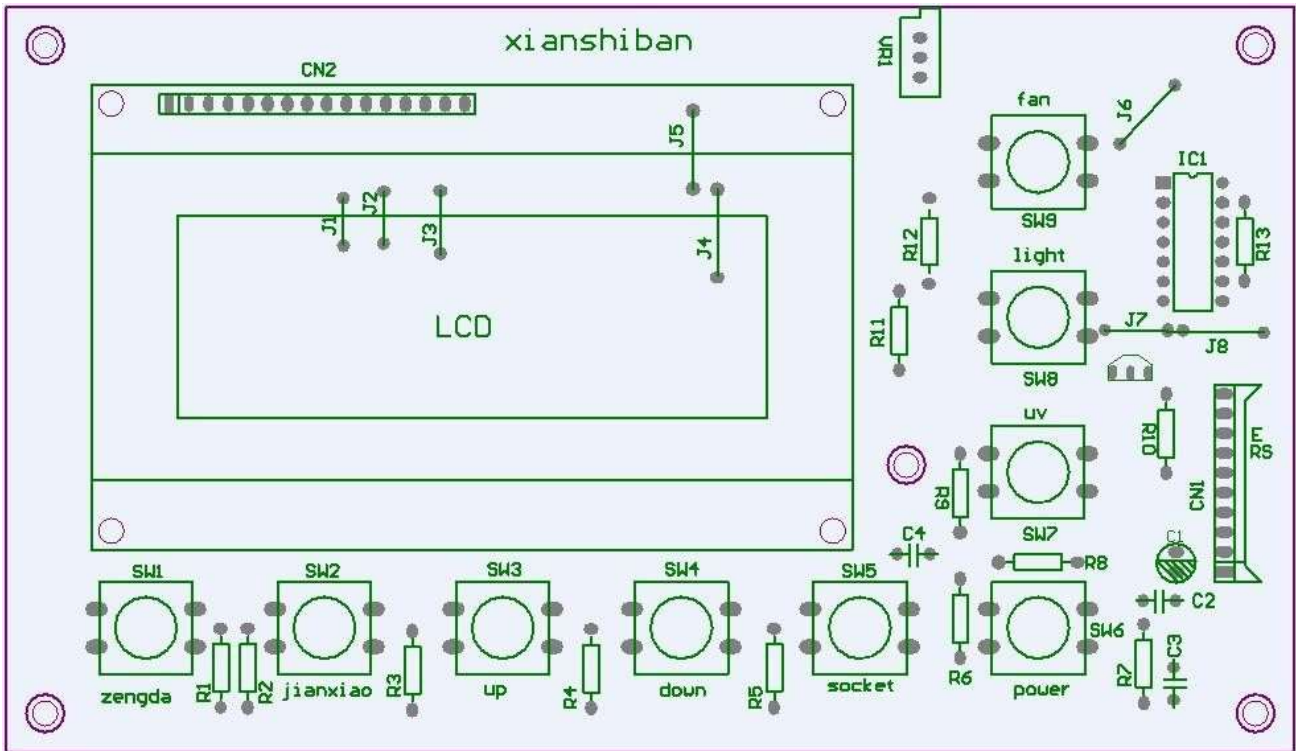

Figure 6 The back of the display screen and circuit diagram
2.2 LCD panel is damaged and replaced. After the power is off, take a picture of the connection positions between the display circuit board and the main control board(As Figure 3), then remove the connections cables. After that, remove the fixed nuts of the display circuit board with a 4-7 wrench(as Figure 6) and replace the old circuit board with the new one as the connection pictures. At last, power test.
8.1(Note : Factory setting :The fan does not start when the window falls to the bottom),The equipment is powered on and the power switch is turned on. Press the power supply key and fan key in turn to see if the fan sign is displayed on the display screen.If not displayed, open the operating panel to check if the UV light interlocking microswitch (figure 6) or its connecting wire is damaged or broken, if has been damaged or broken, replace stroke switches or reconnect wires. If it is lit, use a multimeter to detect the voltage between the "FAN" end of the control board CN5 (as shown in figure 4) and the zero (blue line) of the power switch, if no voltage or voltage is too low (the voltage value should not be less than half of the supply voltage of the equipment), and the control board is damaged, replace a new control panel.